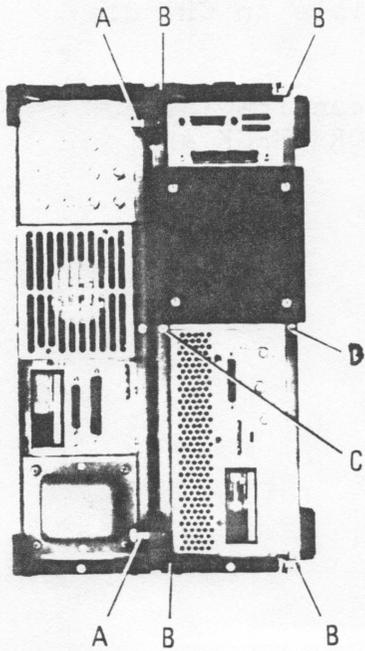

Figure 1. HP 85660A/B Rear View
2. Loosen lock feet (A), Figure 1, and separate instrument halves. Set IF-Display Section aside.
3. Remove four rear feet from RF Section (B), Figure 1.
4. Remove RF Section top cover by loosening rear center pozi-drive screw (C), Figure 1.
6. Place RF Section on its side and remove bottom cover by loosening rear center pozi-driver screw (D), Figure 1.